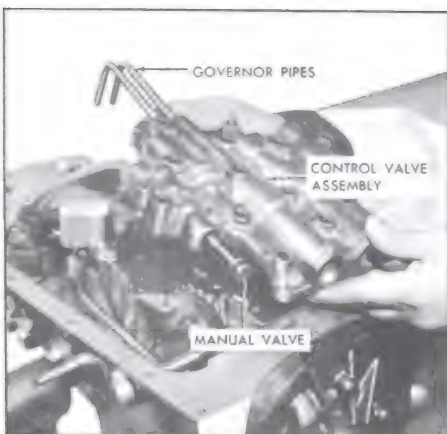

Figure 5-512
2. Remove the control valve body assembly and governor pipes. See Figure 5-512.